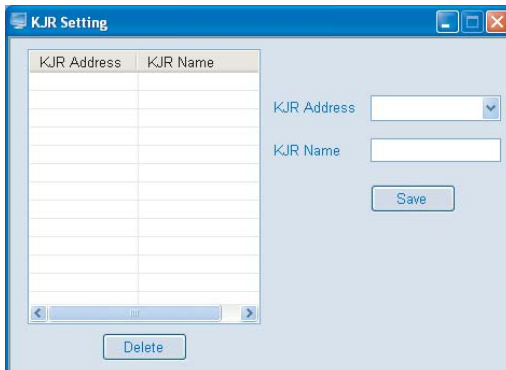

Fig.4-23
①Click “KJR Setting”, the window as Fig. 4-23 will be display——add wire controller to the system to be monitored.